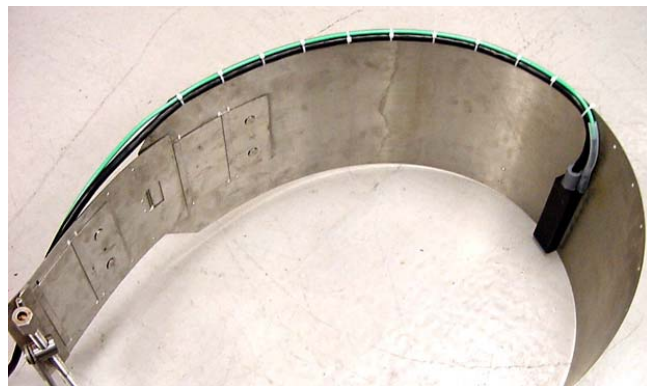

Figure 5: Secure the Cables
4. Use cable ties to secure the cables to the edge of the mounting ring, as shown in Figure 5. Keep in mind the side of the sewer that will allow for the cables to stay clear of the flow.